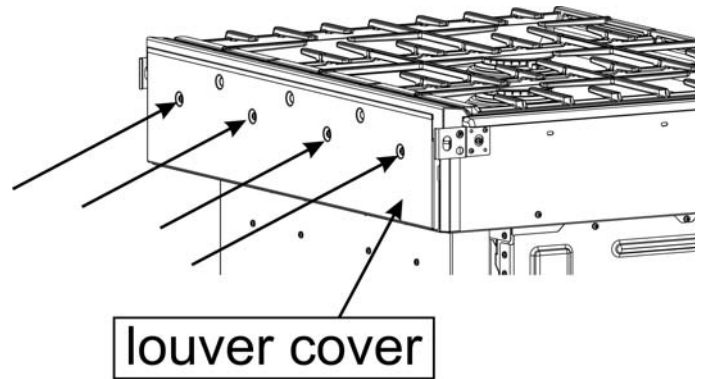

Figure 1: Rear louver cover screw locations
## Procedure for a Dual Fuel Slide-In-Range with louver cover (see Figure 1)
2. Slide the range out enough to access the rear louver cover mounting screws. See Figure 1: Rear louver cover screw locations.
3. If your range does not have a louver cover (see Figure 1), go to the procedure starting on page 5.
4. Remove the four screws holding the rear louver cover (see Figure 1). Save these screws to reattach the louver cover.
14. Place the rear louver cover into its slots and secure with four screws (see Figures 1 and 2).